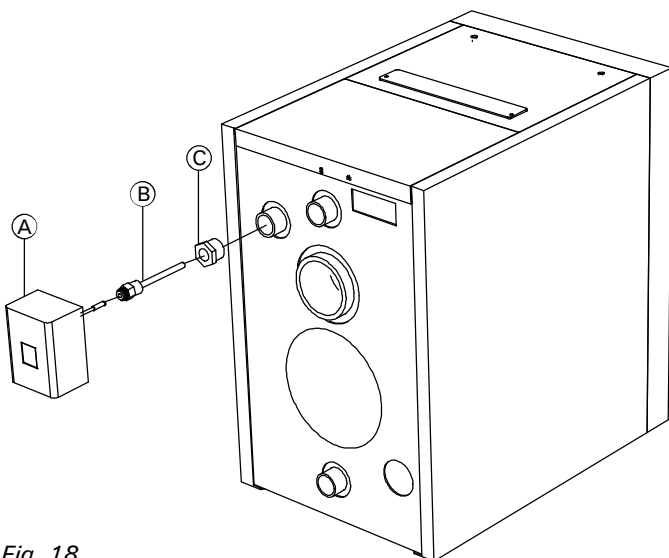

Fig. 18
1. Install supplied high limit control as shown in Fig. 18.